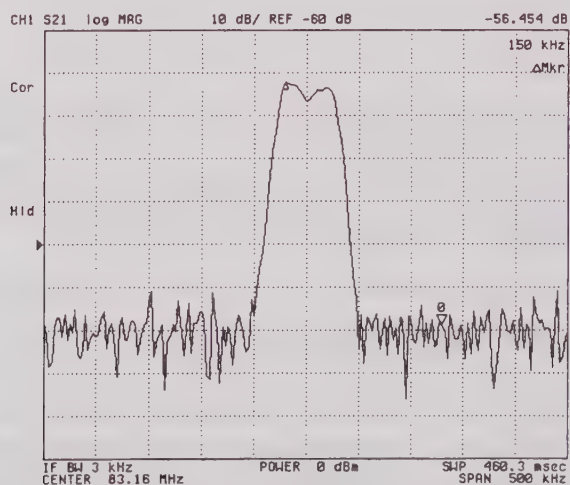

Figure 10-2. Response of a SAW Filter
3. Enter **[1][5][0][k/m]** to move the marker to the point offset from the Δmarker. The Δmarker value shows the relative attenuation at the offset position (see Figure 10-2).